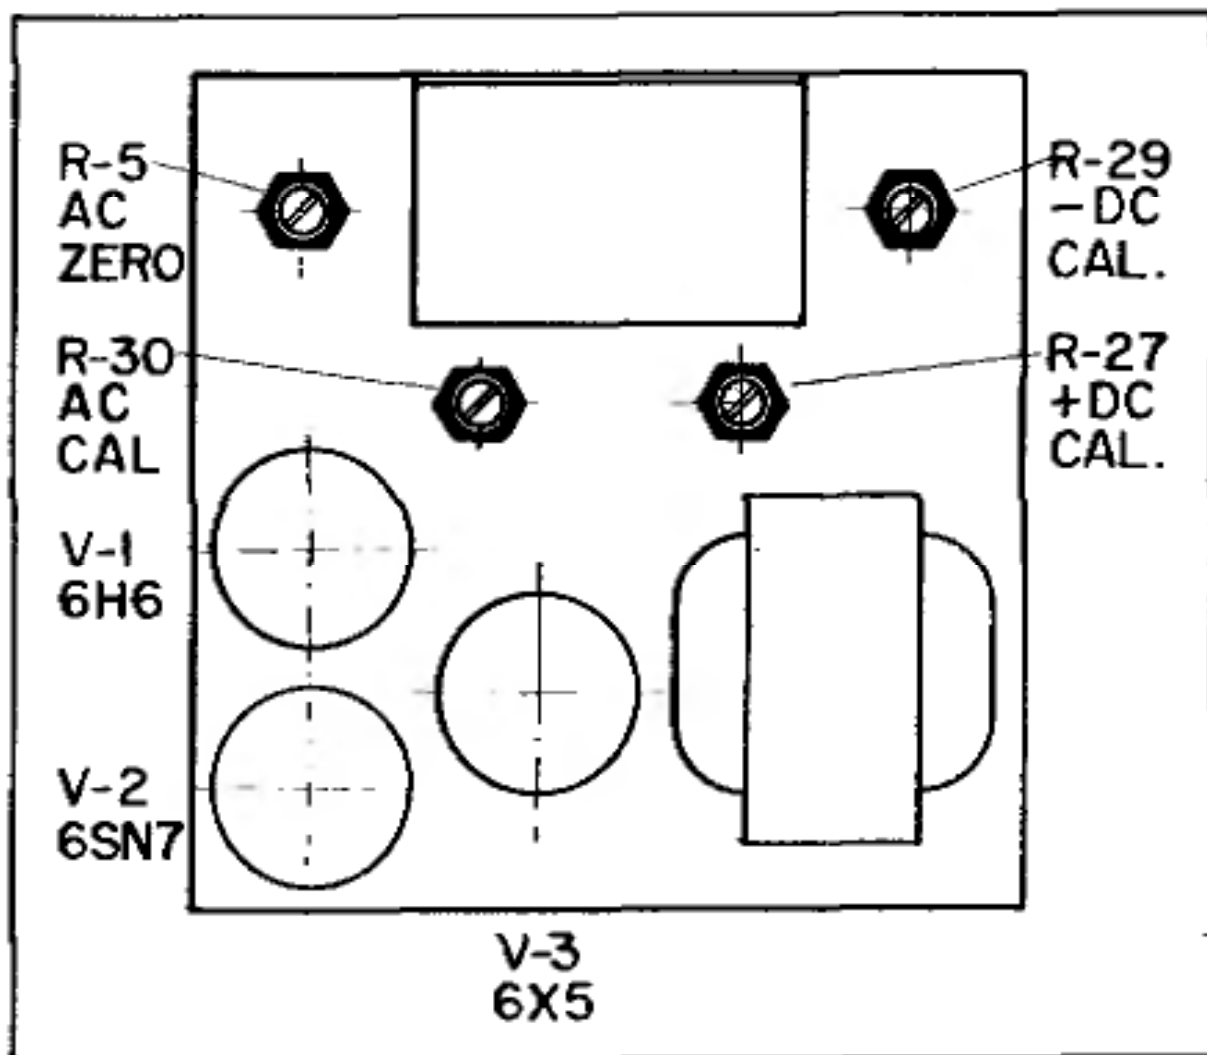

Fig. 2 - Top View of Chassis - Location of calibrating pots.
B. D-C VOLTmeter CALIBRATION: (See Fig. 2) To calibrate the d-c voltage ranges, use two flashlight batteries connected in series. The terminal voltage will be 3.10 volts when fresh batteries are used. Set the FUNCTION switch to "-DC" and the RANGE switch to "5V". Short the D-C (red) probe to the COMMON lead (ground) and turn the ZERO ADJ. control until the meter pointer is at zero (ignore any change after the test leads are disconnected). Connect the batteries between the D-C test leads with the COMMON (ground) lead touching the positive side of the batteries. Adjust the "-DC" calibration potentiometer R-29 until a 3.10 volt reading is obtained on the meter (3.10 on the 0 to 5 D-C scale). To calibrate the "+DC" voltage ranges, repeat the above steps with the FUNCTION switch set at "+DC" and the positive end of the cells connected to the D-C probe. Adjust the "+DC" calibration potentiometer R-27.
C. A-C VOLTmeter CALIBRATION: (See Fig. 2) To calibrate the a-c voltage ranges, set the FUNCTION switch at "AC" and the RANGE switch at "1000V". Short the AC-OHMS (black) test lead to the COMMON lead (ground) and turn the ZERO ADJ. control until the meter pointer is at zero. Turn the RANGE switch to the "5V" position and adjust the A-C shift balance potentiometer, R-5, until the meter pointer returns to zero. Then turn the RANGE switch to the "500V" position; the meter pointer should move very little, usually not at all. Connect the COMMON and AC-OHMS test leads to the 115 volt A-C supply and adjust the A-C calibration potentiometer, R30, until the meter reads 115 volts. Calibration with the 115 volt A-C supply will result in the instrument being accurate within 5%. If greater accuracy is desired, the instrument should be calibrated against a known, standard A-C voltage.